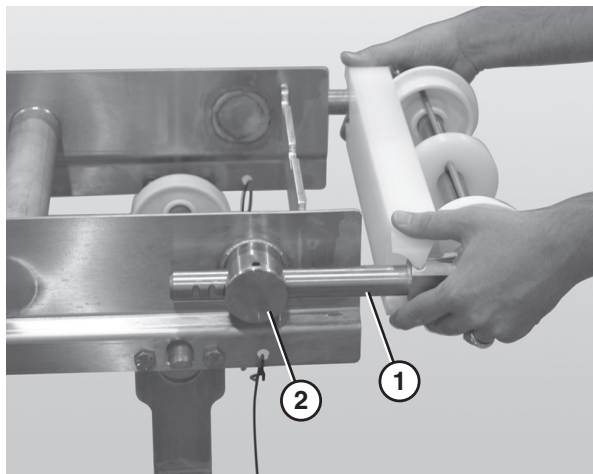

Figure 10
1. Slide the bearing shafts (**Figure 10, item 1**) into the take up blocks (**Figure 10, item 2**).